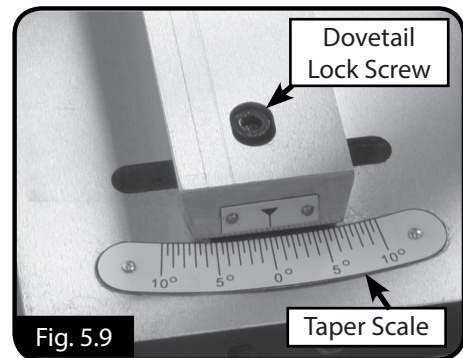
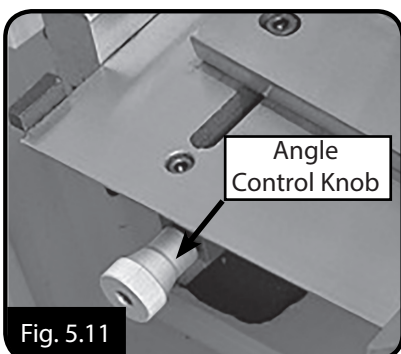

Fig. 5.9
Fig. 5.11
4. Using a 6mm hex wrench, loosen both dovetail lock cap screws (Fig. 5.9, 5.10)
5. Turn the taper angle control knob (Fig. 5.11) until you reach the taper angle that you need as indicated by the taper scale (Fig. 5.9).